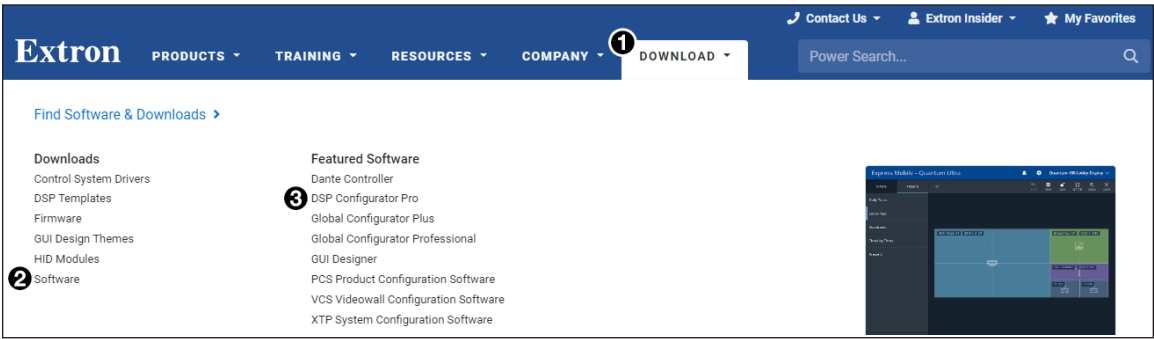

Figure 36. Software Links on Download Screen
2. Mouse over the **Download** tab (see figure 36, ❶) at the top of the page.